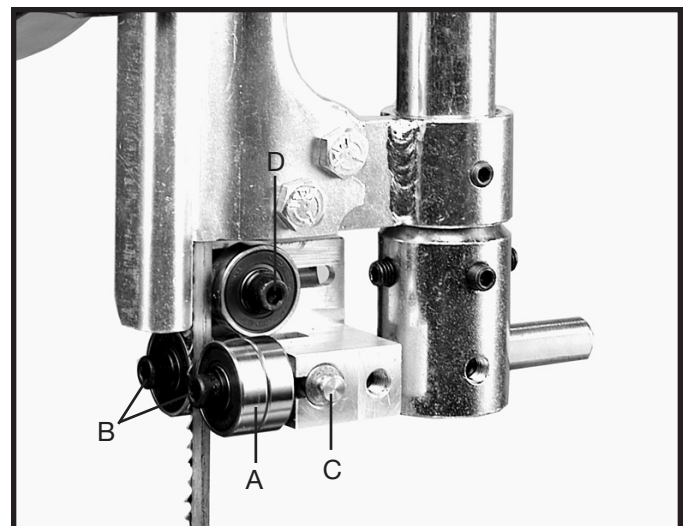

Fig. 26
3. Both upper roller bearing assemblies (A) Fig. 26, can be adjusted by loosening the socket head cap screw (B) Fig. 26. Slide both bearing assembly guides (C) Fig. 26, sideways so the roller bearing outer surface is a couple of thousandths of an inch (about the thickness of a piece of paper) away from the blade. Tighten securely. Be careful not to pinch the blade.
4. The rear upper blade support bearing (D) Fig. 26, should also be adjusted so it is a couple of thousandths away from the back edge of the blade. The upper blade support bearing, prevents the blade from being pushed too far to the rear which could damage the set in the saw teeth.